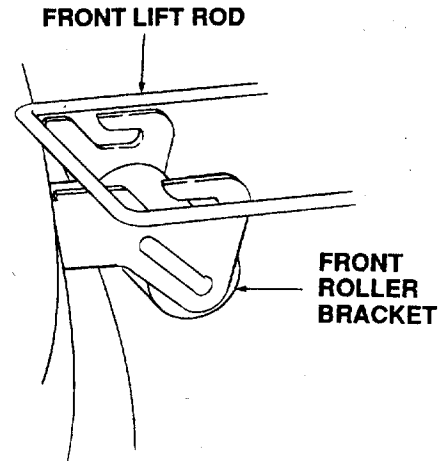

Figure 42
7. Raise the tractor implement lift handle to its highest setting, Slide the mower deck forward, so the front lift rod rests to the rear of, and free of, the front roller bracket slots of the deck (Refer to Figure 42).